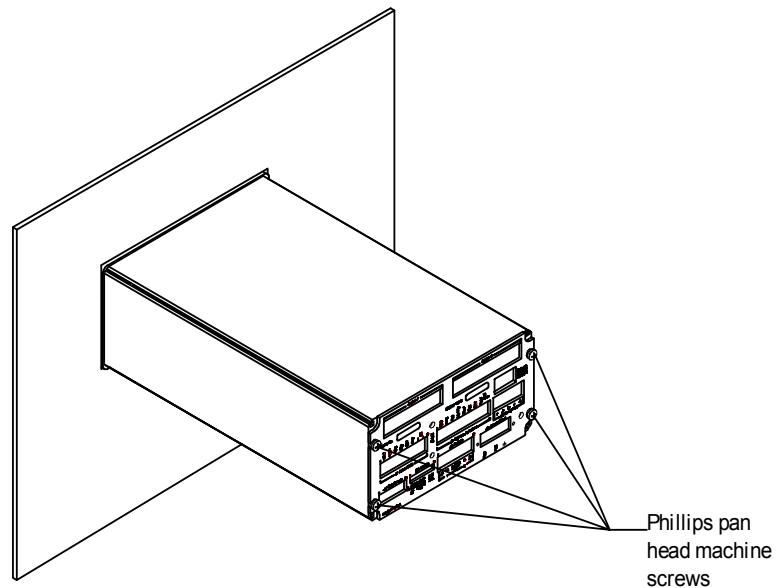

FIG. 4-2 REMOVING THE REAR PANEL
- Step 2. Use a phillips screw driver and remove the four (4) pan-head machine screws that fasten the rear panel to the extrusion. (See Fig. 4-2)
- Step 1. Repeat steps 1-4 above. (See Fig. 4-2)